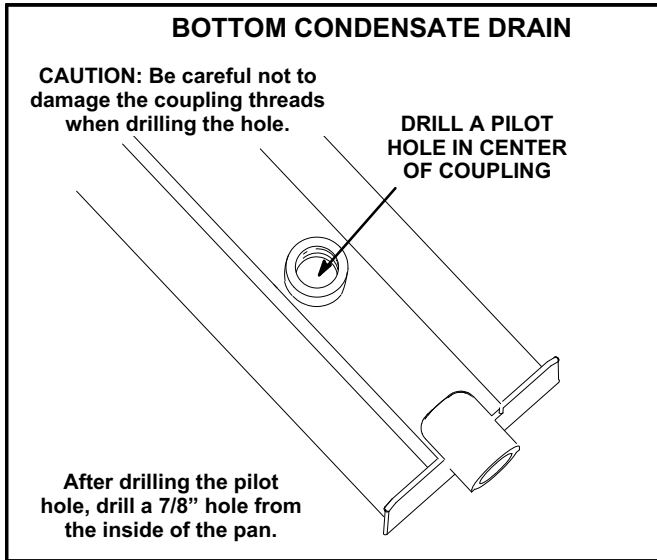

FIGURE 10
- 3- Turn the drain pan upside down and drill a pilot hole through the bottom of the drain pan in the center of the coupling. See figure 10.
Remove the vent cap from the shipping location. Remove and retain two screws near flue outlet opening in access panel. Use retained screws to install the vent cap over the flue outlet. See figure 10.